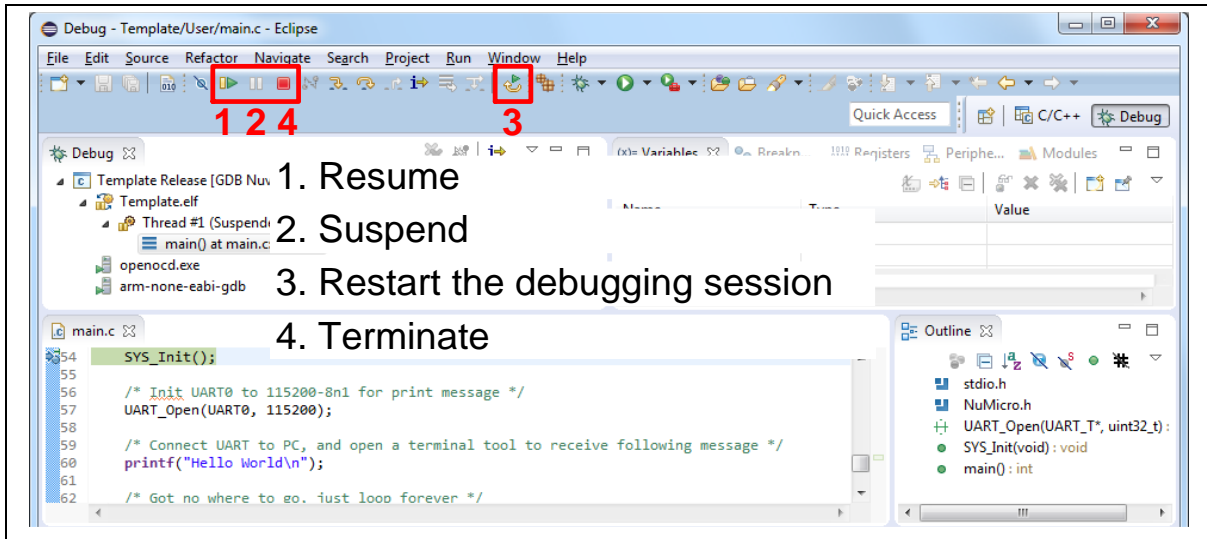
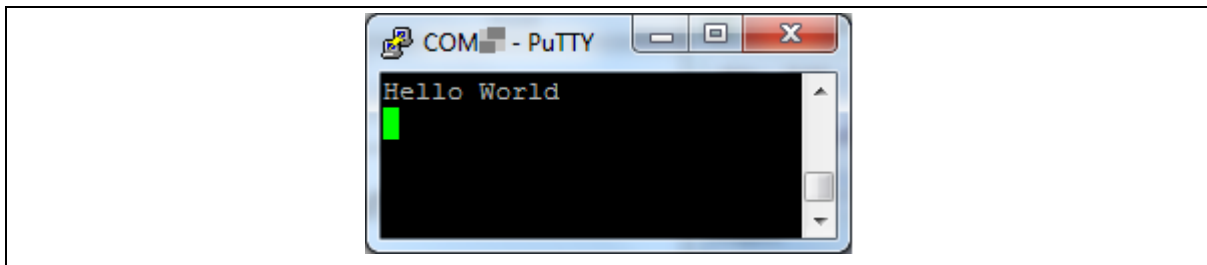

Figure 5-28 NuEclipse Debug Mode
Figure 5-29 Debug Message on Serial Port Terminal Windows
6. Figure 5-28 shows the debug mode under NuEclipse. Click “Resume” and the debug message will be printed out as shown in Figure 5-29. User can debug the project under debug mode by checking source code, assembly language, peripherals’ registers, and setting breakpoint, step run, value monitor, etc. For more information about how to use NuEclipse, please refer to the *NuEclipse User Manual*.